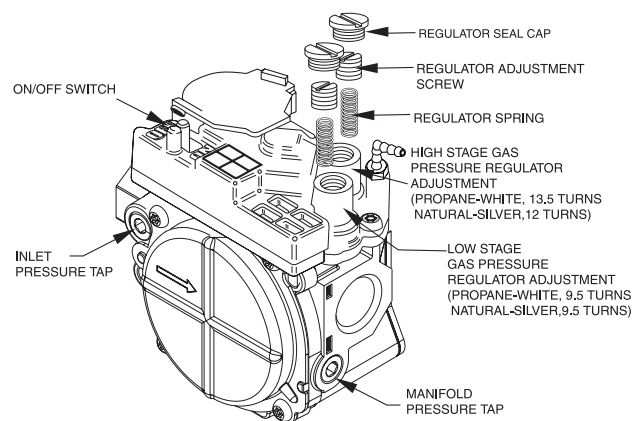

Fig. 26 - Series G Gas Valve & Series J
**NOTE:** For the 2-stage furnaces with a Series G and Series J gas valve (see Fig. 26), they **MUST** have both regulator springs replaced and the gas valve **MUST** be pre-adjusted.
### For Fig. 26
2. Remove both regulator seal caps. (See Fig. 26.)
2. Remove 1/8-in. (3 mm) pipe plug from inlet pressure tap on gas valve. (See Fig. 26 or 27.) DO NOT DISCARD 1/8-in. (3 mm) PLUG.
12. Apply pipe dope sparingly to end of inlet gas pipe plug and install in unused end of 1/8-in. (3 mm) tee. Use a small back-up wrench on tee when tightening gas inlet pipe plug. (See Fig. 26 or 27.)
2. Remove 1/8-in. (3 mm) pipe plug from manifold pressure tap on downstream side of gas valve. (Fig. 26 or 27.)